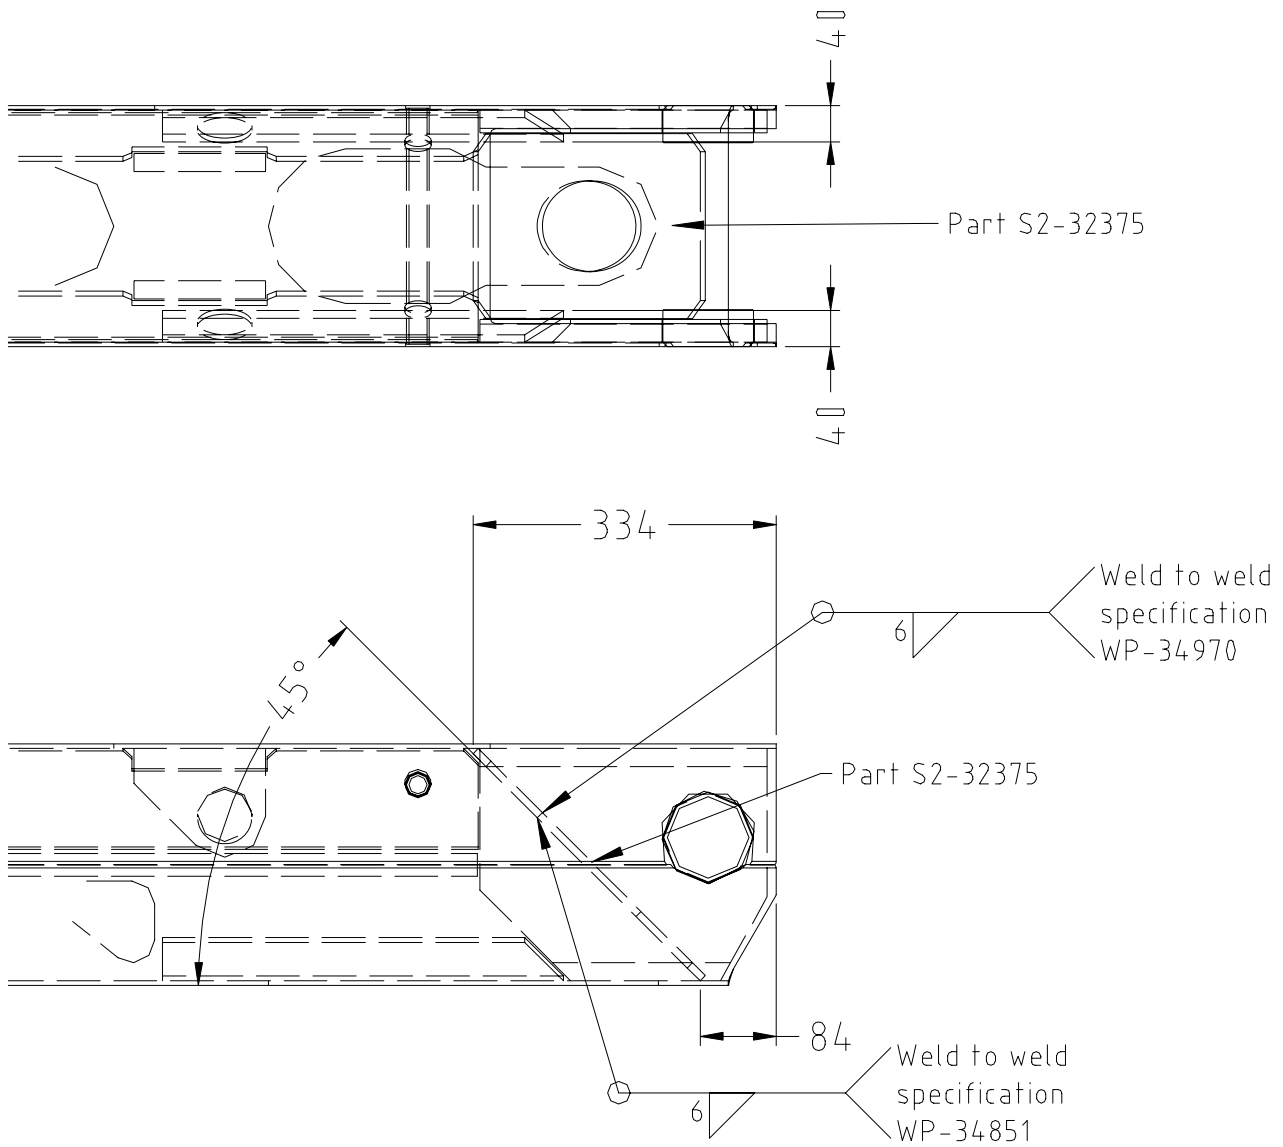

Figure 6: Requirements for welding in new part S3-32375
5. Cut out of Grade 350 Plate, 08mm, part S2-32375. Tack this part into the crane base according to figure 6. Weld part S2-32375 to weld specifications WP-34970 and WP-34851.